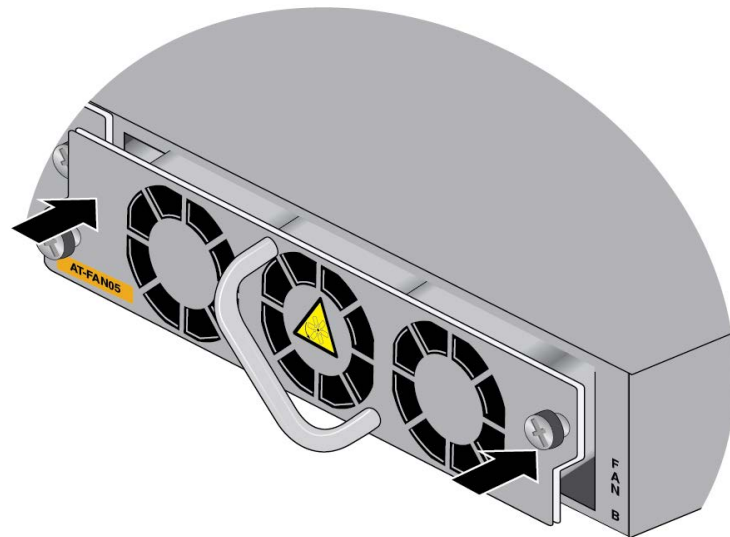

Figure 145. Seating the Fan Module on the Internal Connector
3. When you feel the module make contact with the internal connector, gently press on both sides to seat the module on the connector. Refer to Figure 145.